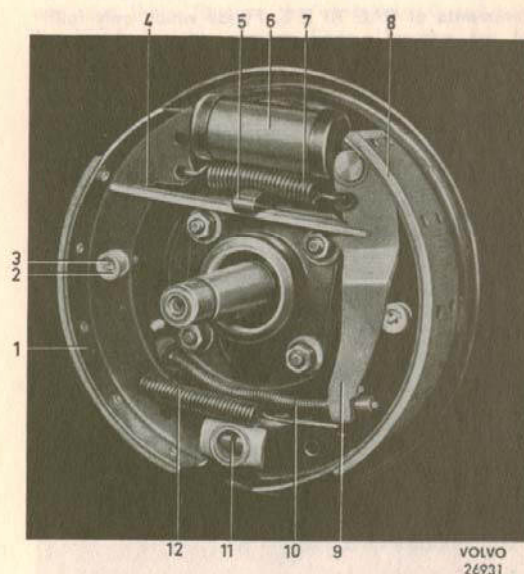

Fig. 7-18. Rear wheel brake unit
2. Rivet on the ready-made original linings. The front lining is placed towards the lower end of the shoe and the rear lining towards the upper end, see Fig. 7-18.
return spring with brake spring pliers. Remove SVO 4074. Fit the spring clip (5, Fig. 7-18).